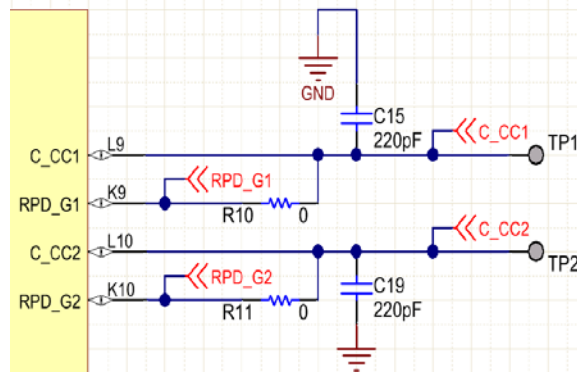

Figure 14. CC1/CC2 Capacitance
- Verify that the capacitance on CC1/CC2 is 220 pF **Figure 14**